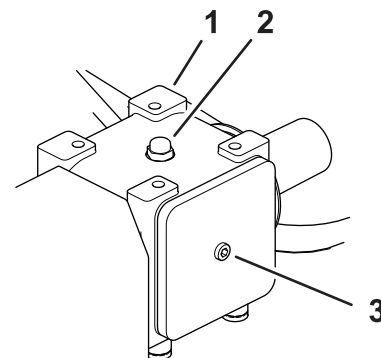

Figure 29
1. Clean debris from the fill plug to avoid contamination (Figure 29).
5. Install the socket-head bolt on the rear of the gearbox (Figure 29).
1. Clean debris from the fill plug and the drain plug to avoid contamination (Figure 29).
7. Install the socket-head bolt on the rear of the gearbox (Figure 29).